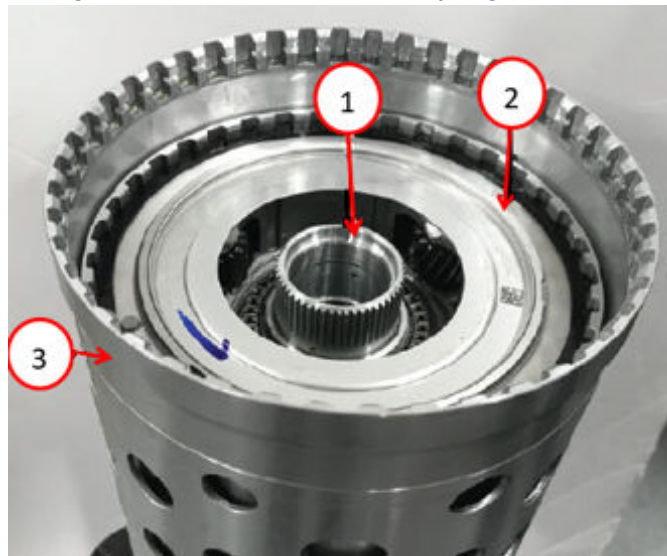

Fig. 24
38. Remove the P2 annulus/P3 sun gear from the drum assembly Fig. 24.